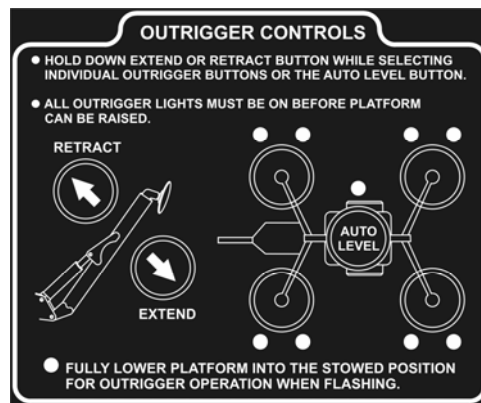

Figure 3-5. Outrigger Control Panel
- Extend the four outriggers individually, or for simultaneous extension use the **AUTO LEVEL (23)** button on the ground (lower) control panel. When the aerial work platform is leveled properly, a buzzer will sound, the two LEDs at each **OUTRIGGER (25 and 26)** button, and the LED at the **AUTO LEVEL (23)** button will be lit. Refer to Figure 3-5.